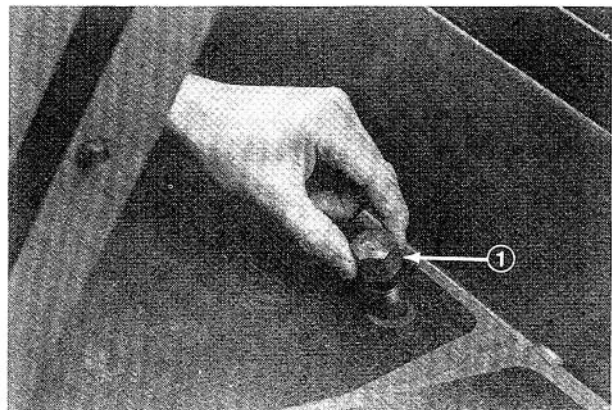

Figure 14
2. Remove dipstick cap (Fig. 14) from filler neck and wipe it with a clean rag. Screw dipstick cap finger-tight onto filler neck; then remove it and check level of fluid. If level is not within 1/2 inch (13 mm) from the groove in the dipstick (Fig. 14), add SAE 10W-30 engine oil, or, if used, automatic transmission fluid to raise level to groove mark. Do not overfill.